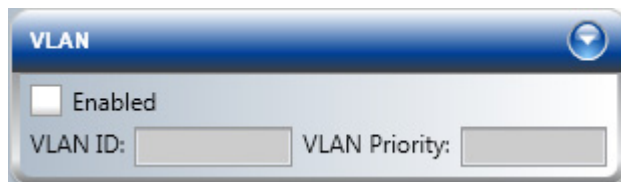

Figure 4-4: VLAN for Management
1. In the window of Figure 4-4, check the Enabled box.